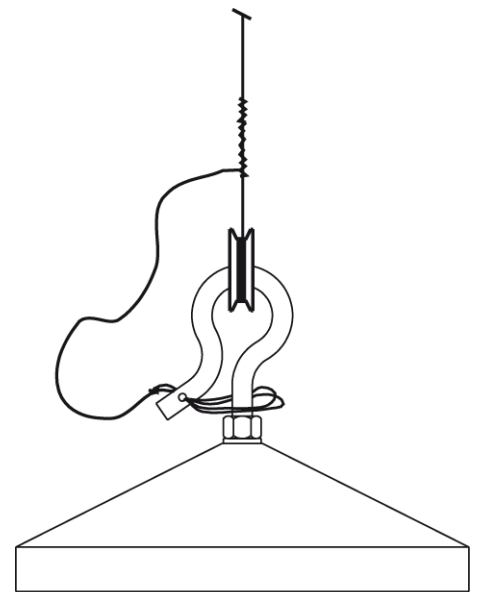

Figure 3.3 Mounting displacer
- Take an extra piece of wire and fasten one end to the measuring wire, pass the other end through the hole in the end of the displacer hook. Secure this end several times around the hook (refer to figure 3.3).